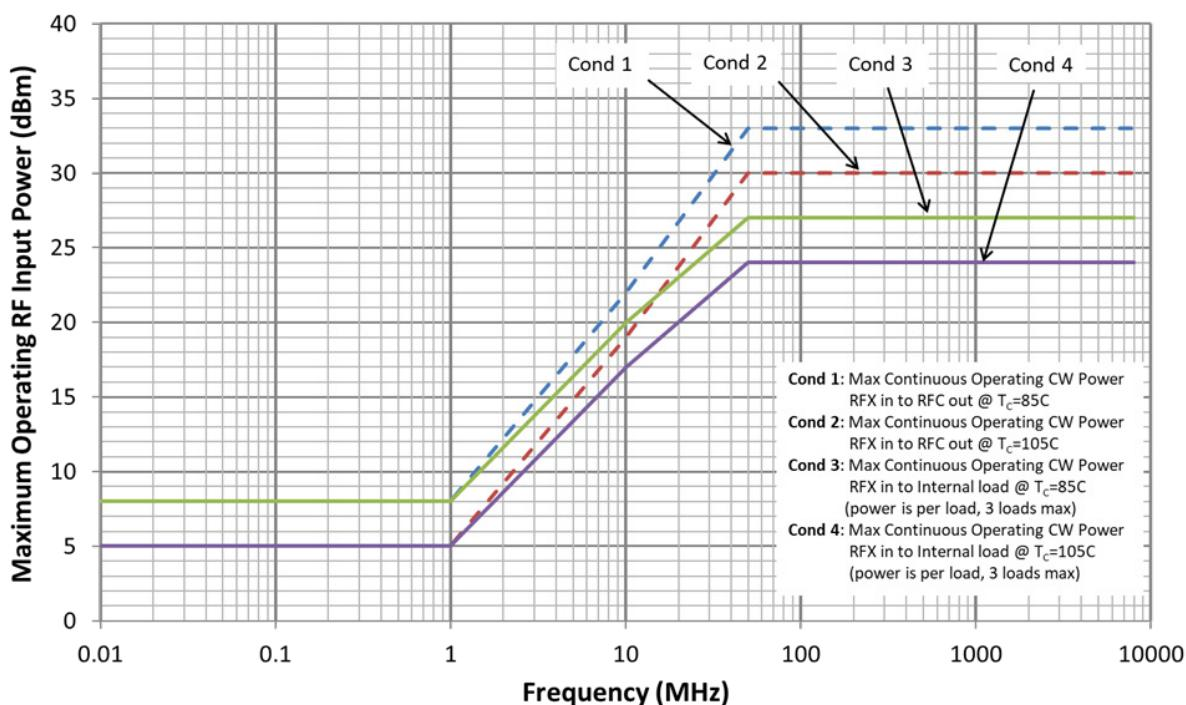

Figure 1. Maximum RF Input Power vs. RF Frequency
- Levels based on $T_c \leq 85$ °C. See Figure 1 power derating curve for higher case temperatures.
3. The input 0.1dB compression point is a linearity figure of merit. Refer to Absolute Maximum Ratings section for the maximum RF input power and Figure 1 for maximum operating RF input power.